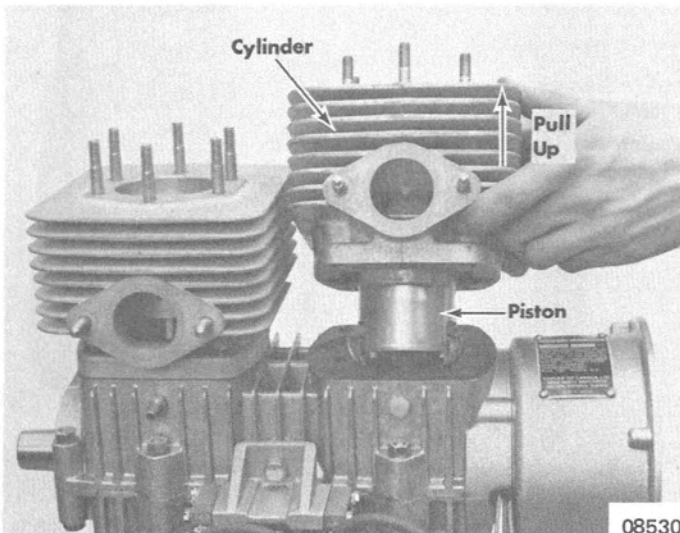

Figure 1. Removing Cylinder
9. Lift cylinders off crankcase and pistons. (Figure 1)